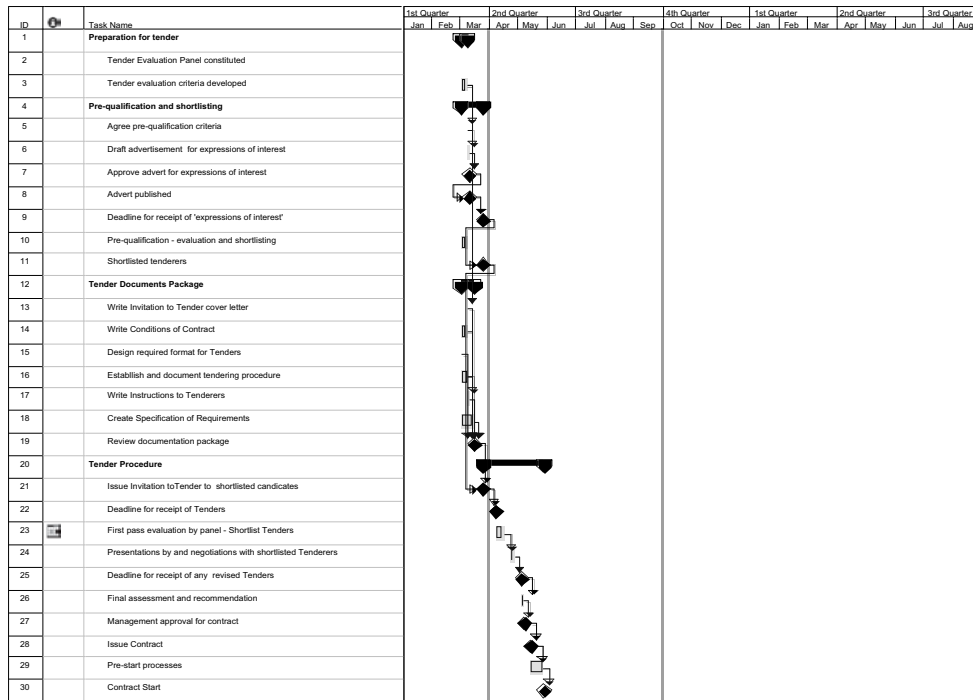
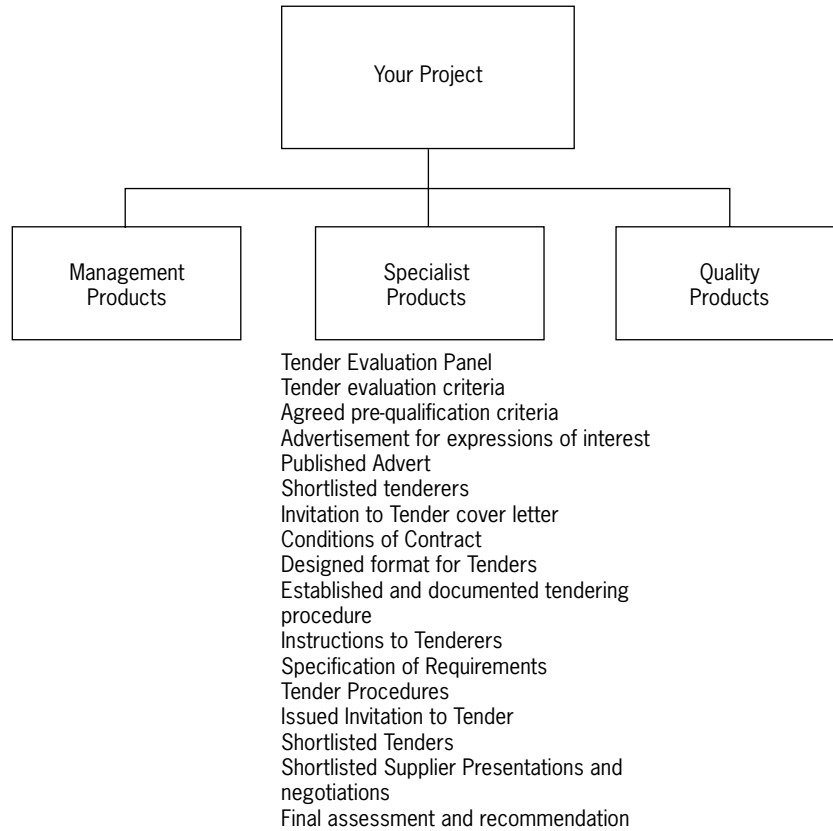

Figure 107 The four products, showing as ‘Summary Tasks’ containing the tasks needed to create them, and now showing durations, sequence and dependencies
Figure 109 Combination of diagram and lists (specialist products only)
10. Next, you will need to work out the sequence and any dependencies between the tasks. Estimate the duration of each, based on the size of each task and the skill level(s) of the resources available to do the work (see Figure 107). Note that for most software planning tools the default for dependencies is 'Finish to Start', and this is implied on a Product Flow Diagram. Once you have drafted the Gantt chart, you may need to check whether 'Start to Start', 'Finish to Finish' or 'Start to Finish' might be more appropriate for some aspects of your plan and adjust it accordingly.
You can produce your PBS as a diagram similar in form to an organization chart, as in Figure 107 above, but may also find a structured list, or a combination of these two approaches helpful. It is common practice to use a diagram for the top levels, with lists of products below each main product-type as in Figure 109.